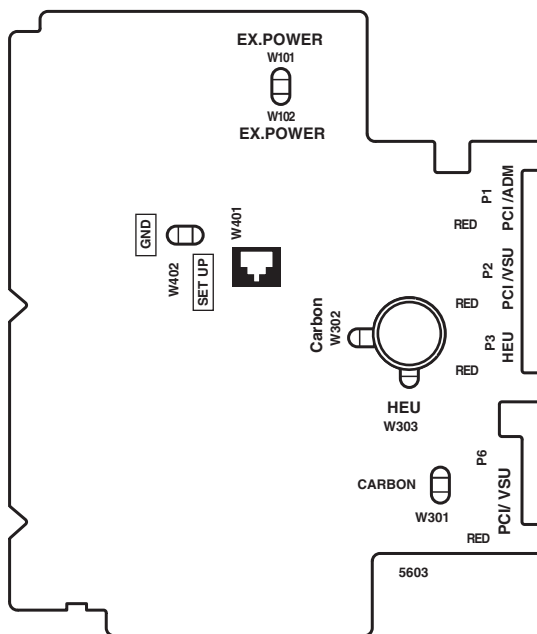

Figure 12-19 DKT3010, DKT3020, DKT3014
4. Connect the BHEU integrated wire plug to P3 (HEU) on the telephone base PCB (see Figure 12-19). Note the location of the red wire